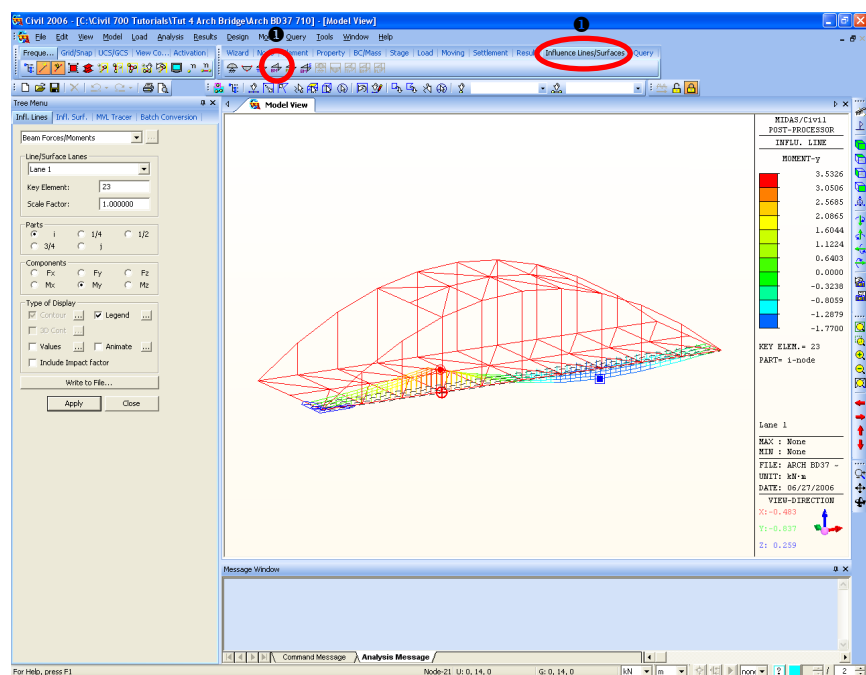

Figure 4.32 Moment Influence Line
Figure 4.32 shows the moment influence line.
2. Click  **Beam Forces/Moments** on the *Influence Lines/Surfaces* tab in the toolbar (Figure 4.32 ❶).